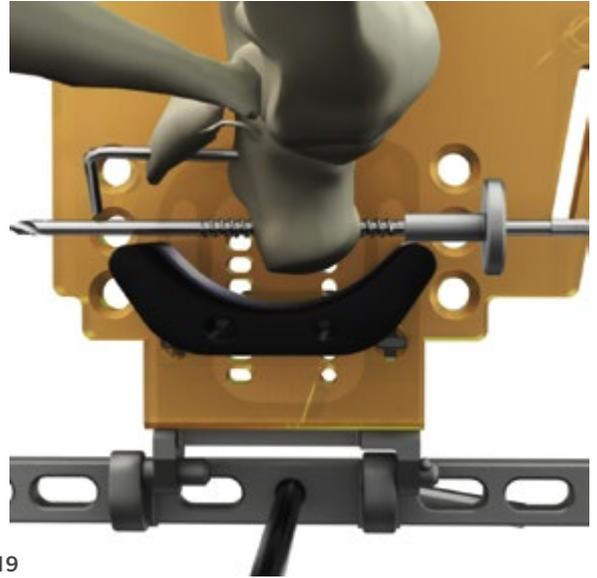

Fig. 19
- Drill the Calcaneus Pin through the calcaneus using the Drill Sleeve (Fig. 19).